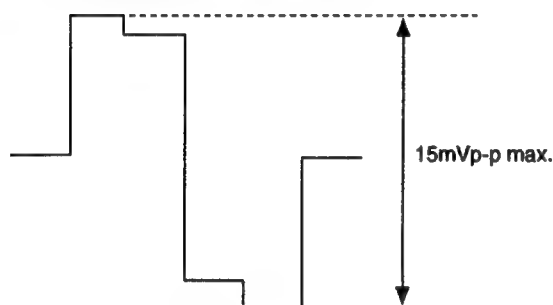

Fig. 5-11
3. Connect the probe of an oscilloscope to IC404 ⑩ PIN or TP402.
5. Adjust **[SUB PHASE]** so that the output waveform will be minimum (15 mVp-p or less). (Fig.5-11)
4. Adjust **[SUB PHASE]** so that the output waveform will be minimum (15 mVp-p or less). (Fig.5-11)